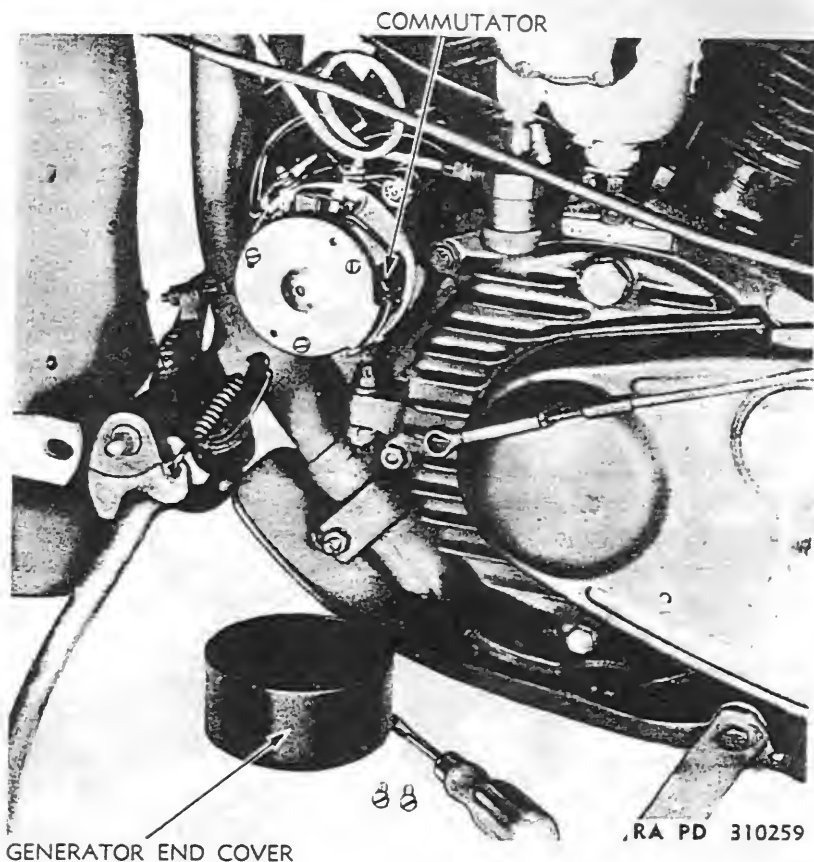

Figure 56—Generator Cover Removed for Commutator Cleaning
91. CLEAN COMMUTATOR (fig. 56).